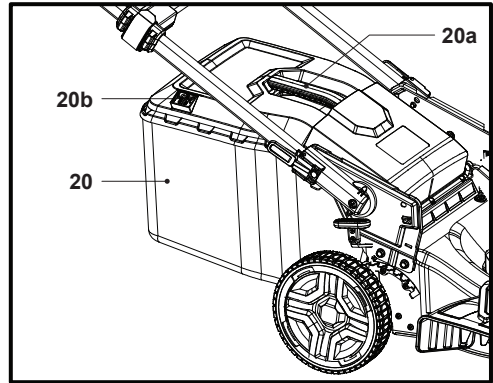

Fig. 13
2. When the hatch (20b) is closed, the grass catcher (20) is full and must be emptied (Fig. 13).